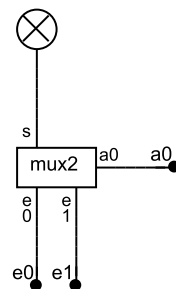

Figure 1.6: Testing the user-defined component mux2
- ❑ Now you should insert connection points for the inputs and outputs of the circuit and then you should label them as shown in figure 1.6. Adding connection points to components and labelling these connections points is a very common operation, so SECD provides a function for this: right-click the component and choose the option *Place points*. Connect also a lamp to the output of the circuit, as shown in this figure.